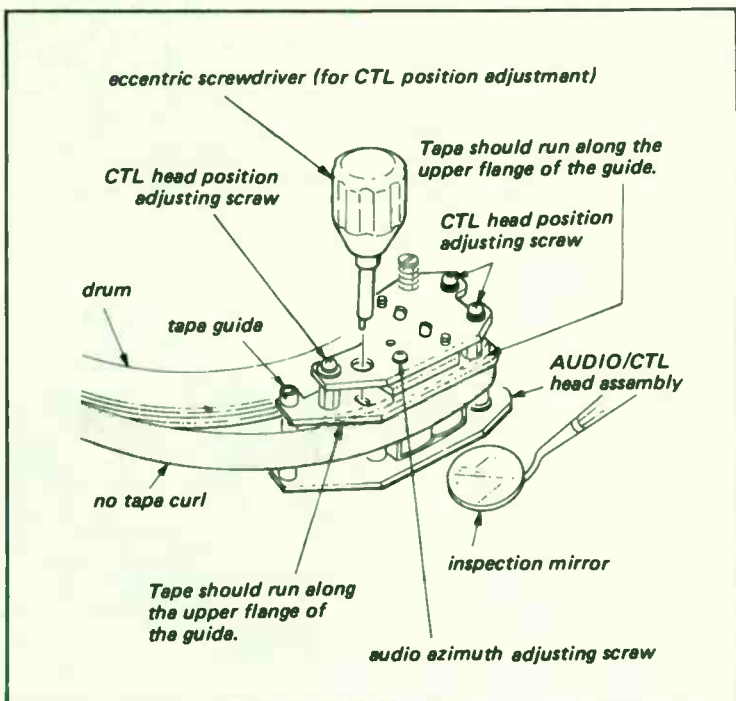

Fig. 5-28. Audio/control head.
Insert a cassette. Press the play button to run the tape in the play mode. Adjust the screws (1), (2), (3) and (4) so that the tape runs smoothly, and any tape curl is removed while observing tape at the entrance tape guide flange and exit tape guide flange. Any fold-out or curl of the tape should be removed at the capstan, and at the entrance and exit of the revolving head disc assembly. The tape should run so that the top edge of the tape maintains stable contact along the upper flange of the tape guides while any tape curl and wrinkles are removed. Use an inspection mirror to observe tape-edge-to-flange guide contact during this adjustment. Refer to Figs. 5-28 and 5-29.
Adjust the audio azimuth adjustment screw for maximum audio level. Refer to Fig. 5-28. Note: the height of the audio head can be set by running the tape along the flanges of the exit side tape guide nuts. It is not necessary to adjust audio head height independently.